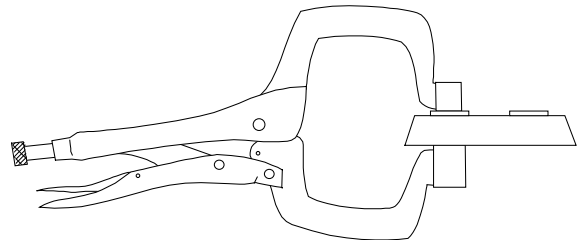

Figure 3.4.1C
- 1. Place T-109 pressing tool (without T-518 jaw insert) over lead wire and onto distributor cap (See Figure 3.4.1C).